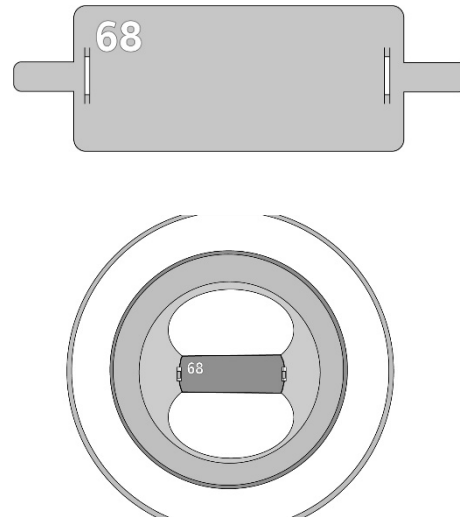

Figure 18: Restriction plate / assembly in the flue
5. Mount the restriction plate in the eyes of the inner wall of the pipe opening (see Fig. 18).